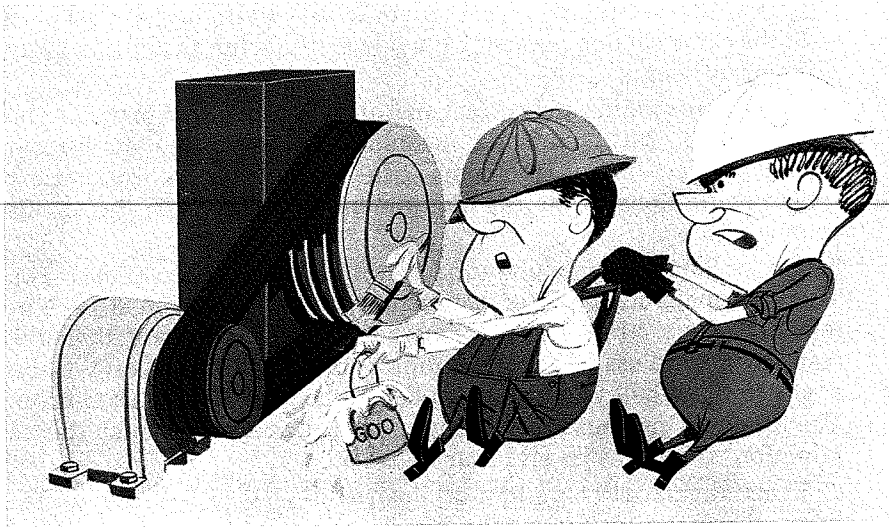

FIG. 3-15 (Gates Rubber Company)
3. Do not use belt dressing on V-belts (Fig. 3-15). If apparently needed because of slippage, look for the real cause.